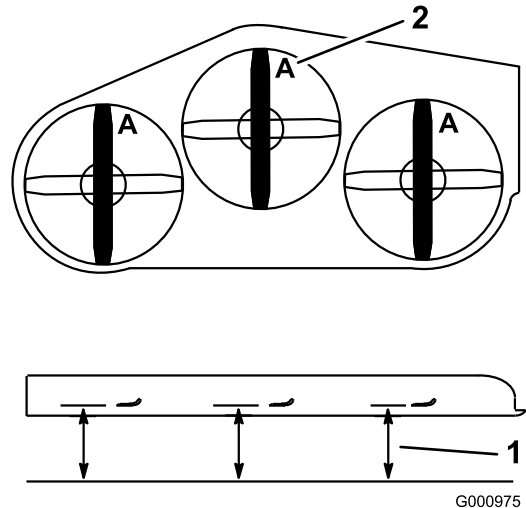

**Figure 74**
1. Inspect the cutting edges (Figure 74). If the edges are not sharp or have nicks, remove and sharpen the blades. Refer to Sharpening the Blades.
2. Inspect the blades, especially the curved area (Figure 74). If you notice any damage, wear, or a slot forming in this area (Figure 74), immediately install a new blade.